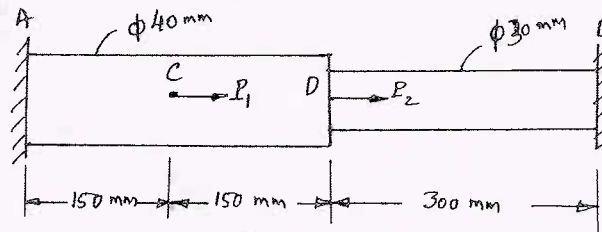

Fig.Q1(c)
- A stepped bar of steel, held between two supports as shown in Fig.Q1(c), is subjected to loads $P_1 = 80$ kN and $P_2 = 60$ kN. Find the reactions developed at the ends A and B.